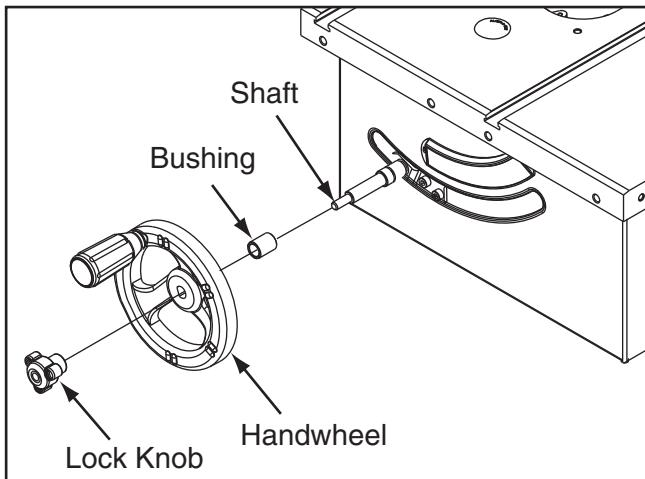

Figure 14. Installing blade height handwheel components.
- Insert the bushing onto the front handwheel shaft (see **Figure 14**), slide the flat on the blade height handwheel onto the flat of the shaft, then thread the lock knob on until you feel slight resistance.